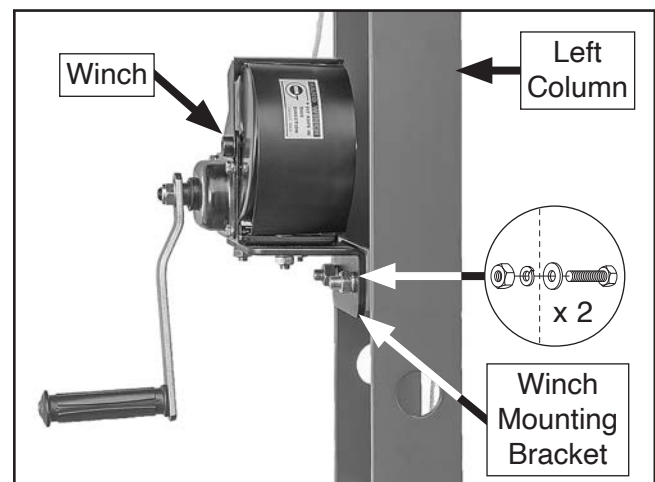

Figure 6. Winch and winch mounting bracket installed on left column.
7. Remove shipping wrap securing winch, then install winch and winch mounting bracket on left column with (2) M12-1.75 X 35 hex bolts, 12mm flat washers, 12mm lock washers, and M12-1.75 hex nuts (see **Figure 6**).